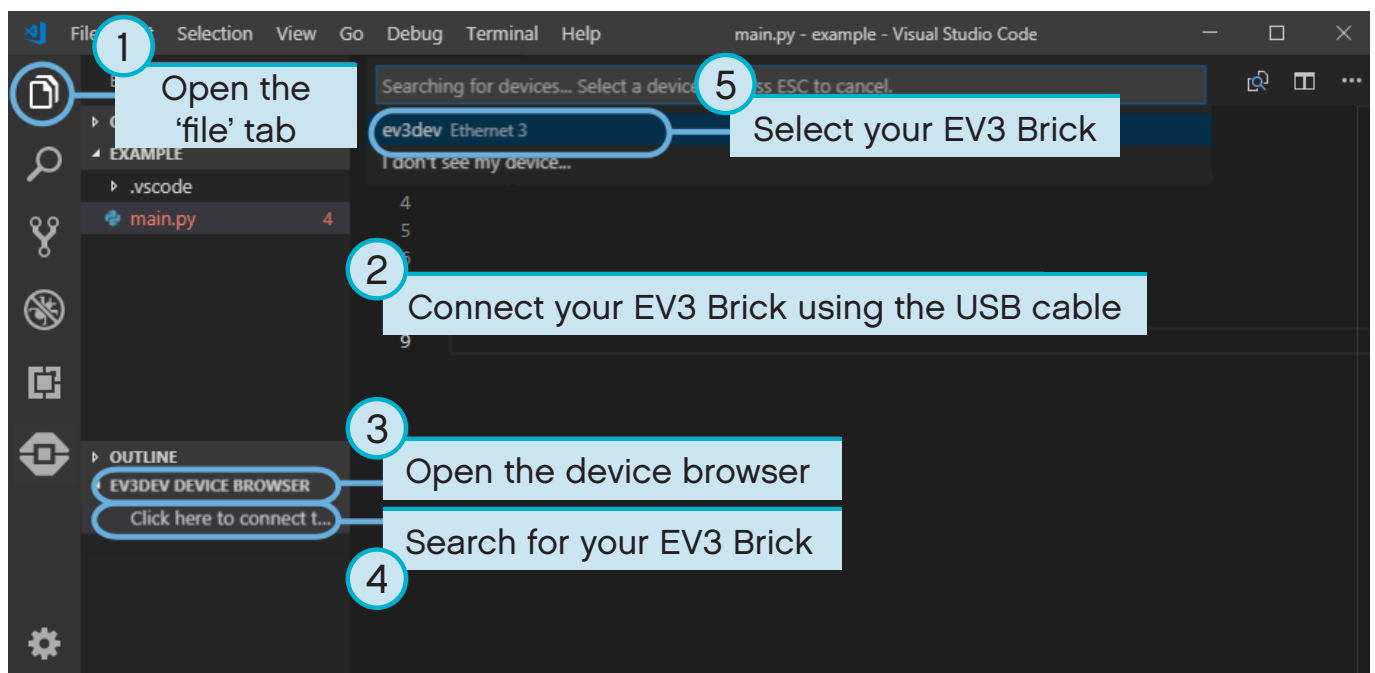

Figure 2.5: Configuring the USB connection between the computer and the EV3 Brick.
- Configure the USB connection as shown in Figure 2.5.